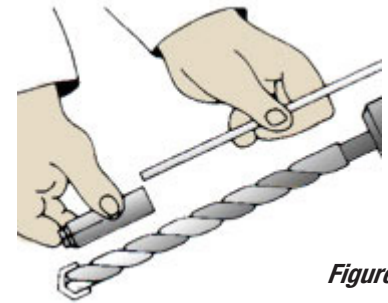

Figure 5
5. When fastening to solid concrete with a drop in anchor, a hole must be drilled into the base material. A hammer drill should be used as it will drill the best quality hole. Once the bit is chucked into the hammer drill, the depth of the hole to be drilled can easily be set by using the depth gauge on the drill or by wrapping the bit with tape at the required depth. We recommend a drill depth of 1-5/8" deep so that the anchor just sets down flush with the surface. (Figure 5)